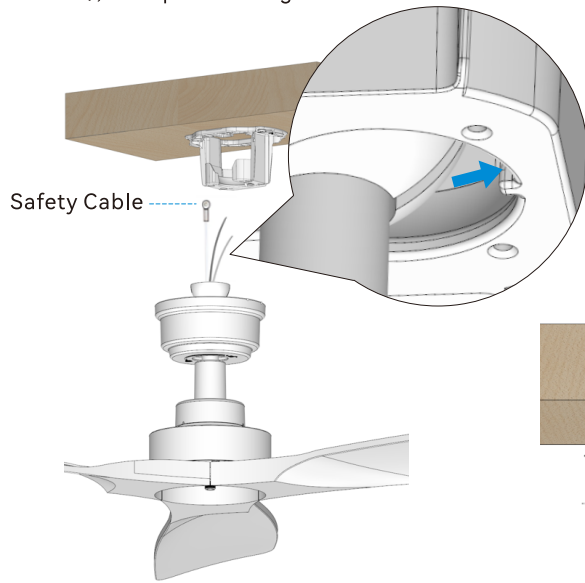

Fig. 4.1
4.1 Install the ball end of the downrod into the opening of the mounting bracket. Rotate the downrod until the tab on the mounting bracket is securely seated in the slot in the downrod ball, as shown in the enlarged image in Fig. 4.1.